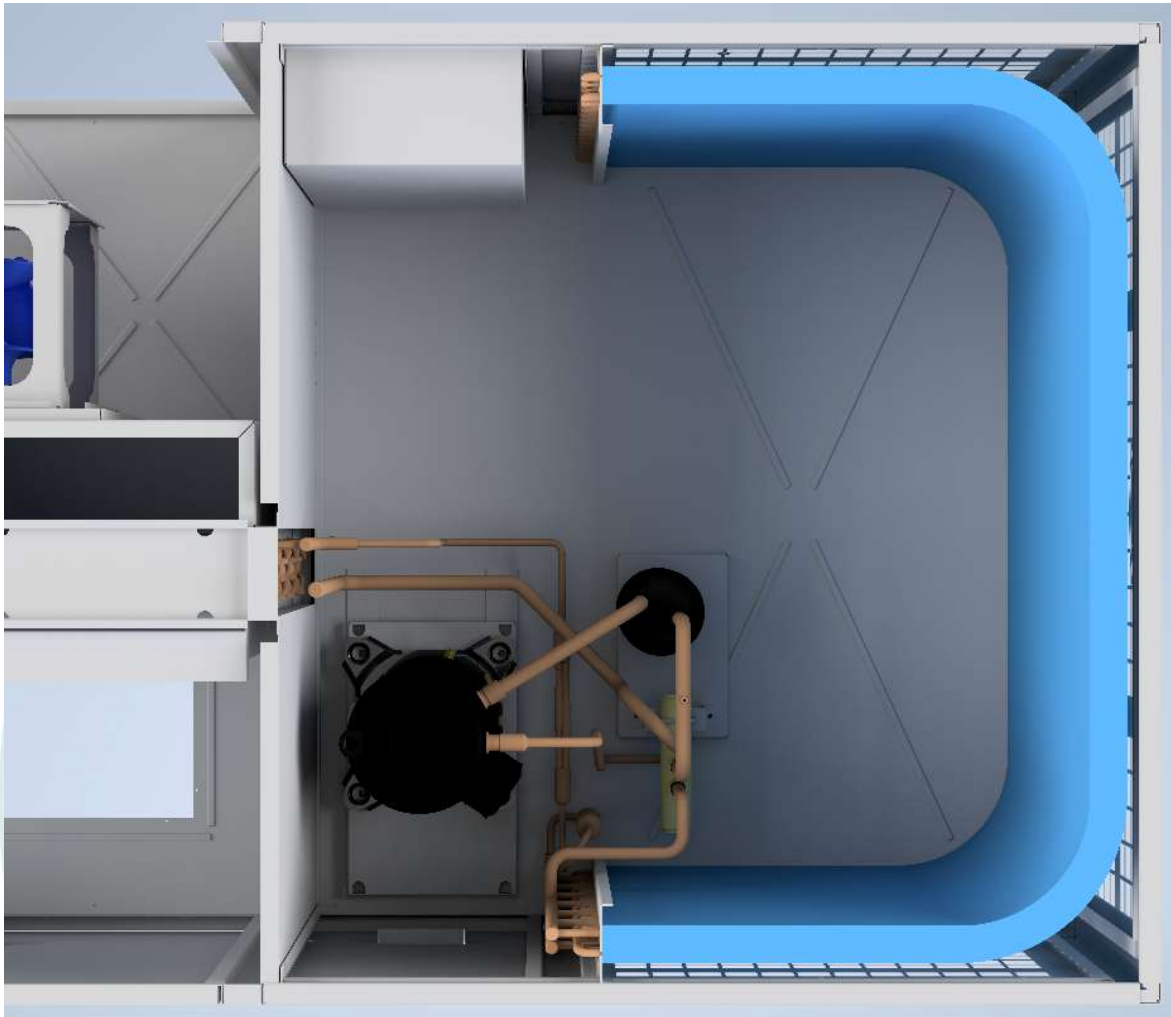

Fig. 18 — Separating Coil Sections
3. Remove the compressor access panel to access the lower coilclip. See Fig. 18 for separating coil sections